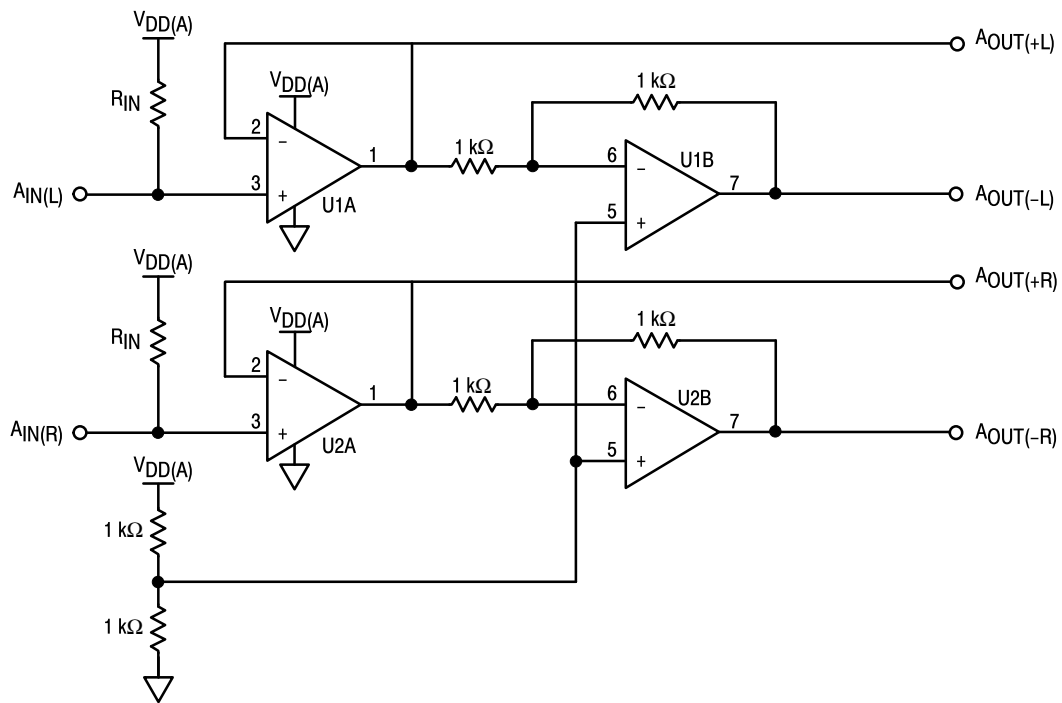

Figure 1. Input Buffer-Driver
(Full Temperature, CLK = 6.144 MHz in div1, $V_{DD(A)} = V_{DD(D)} = 5.0$ V, 1007.8 Hz Full-Scale Input Sinewave, 1.4 V p-p @ $A_{IN(L)}$ and $A_{IN(R)}$, Common Mode Input Voltage = 2.5 V. Measured bandwidth is 23 Hz to 24 kHz, inputs driven differentially per Figure 1.)
* For best performance $A_{IN(+L)}$, $A_{IN(-L)}$ and $A_{IN(+R)}$, $A_{IN(-R)}$ should be differentially driven. $A_{IN(+L)}$ or $A_{IN(+R)}$ (and $A_{IN(-L)}$ or $A_{IN(-R)}$) can be grounded for single ended configuration. Circuit in Figure 1 depicts input buffer circuit.